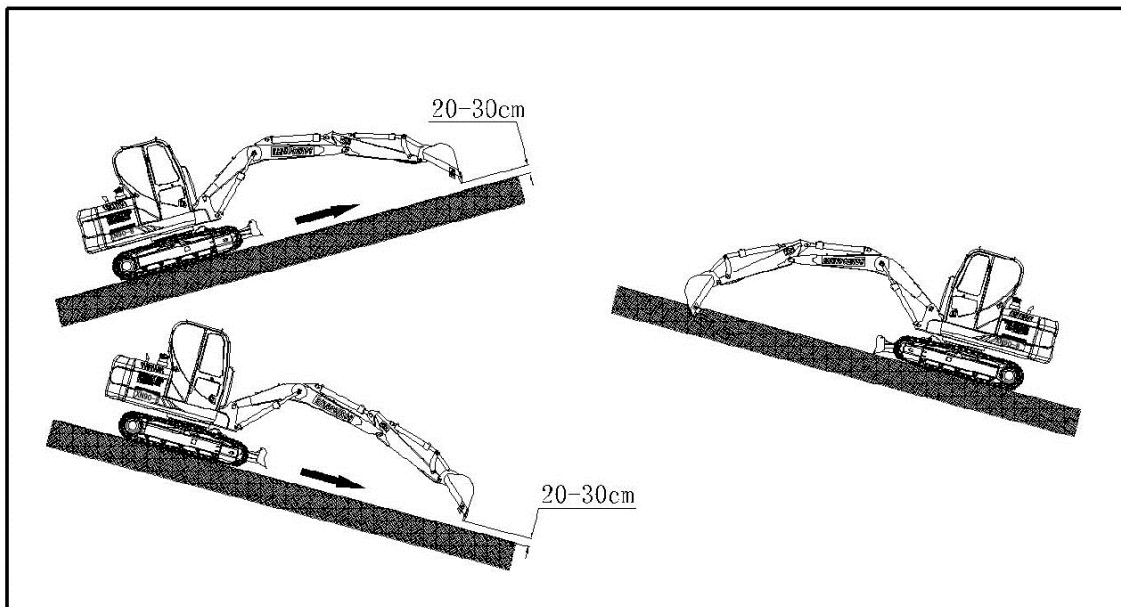

Fig 3-31
8. Walking along the slope, do not walk across the slope. (Fig 3-31), pull out of the bucket rod, lowering the boom, keep the bucket a 300mm distance from the ground, if the machine sliding or unstable, put down the bucket to keep control. If the engine stopped, low down the bucket, make sure all handle at the middle position before restart the engine.